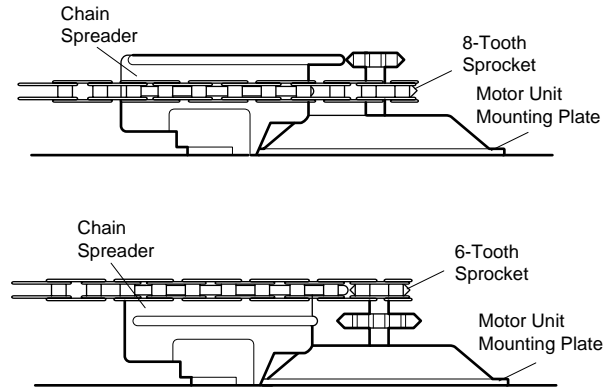

Figure 3
- Guide the chain around the selected groove in the chain spreader (to engage either the 8-tooth sprocket or the 6-tooth sprocket) as shown (Figure 3).